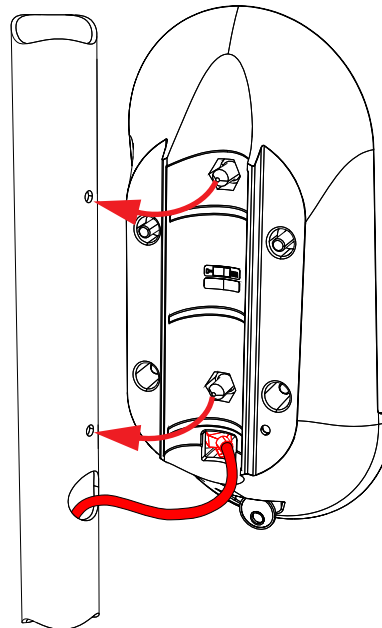

Figure 4-20 Wiring Connections
- STEP 7:** Put the OV|41 in the proper mounting position on the mounting post as shown in **Figure 4-20**.